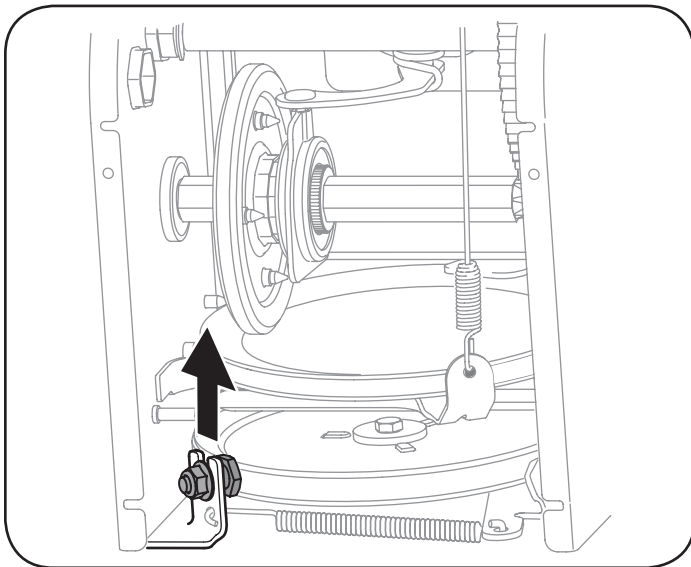

Figure 70
6. Loosen and remove the shoulder screw which acts as a belt keeper. Refer to Figure 70.